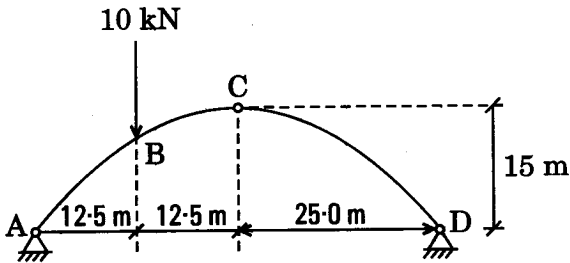

Figure 2
3. A three-hinged parabolic arch has a span of 50 m and a rise of 15 m. It carries a point load of 10 kN at quarter span as shown in Figure 2. Calculate the reactions and draw the bending moment diagram. Also calculate the normal thrust and radial shear force at quarter span. 14